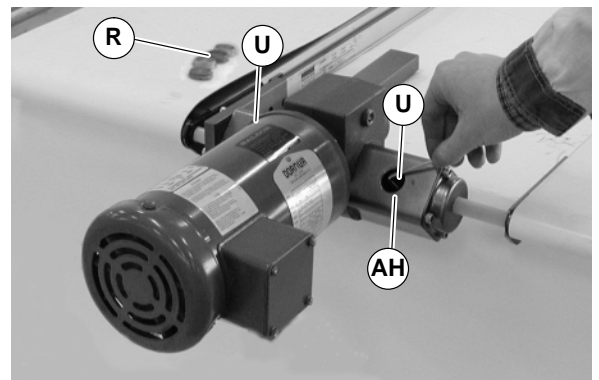

Figure 32
2. Jog motor and rotate coupling to align set screws (U of Figure 32) with access hole (AH). Loosen set screws (U) on both sides of gearmotor assembly (F). Repeat for second set screws.